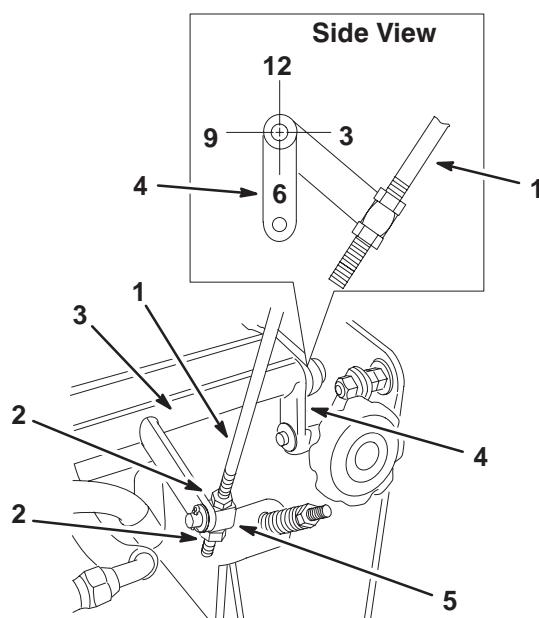

Figure 41
3. Check the orientation of the tabs on the ends of the speed control crank. These tabs should approximately be pointing straight down at the 6 o'clock position (Fig. 41).
4. If adjustment is needed, loosen the nuts on both sides of the swivel on the speed control rod (Fig. 41).
5. Adjust the swivel, until the tabs are at the 6 o'clock position (Fig. 41).
6. Tighten the nuts on both sides of the swivel (Fig. 41).